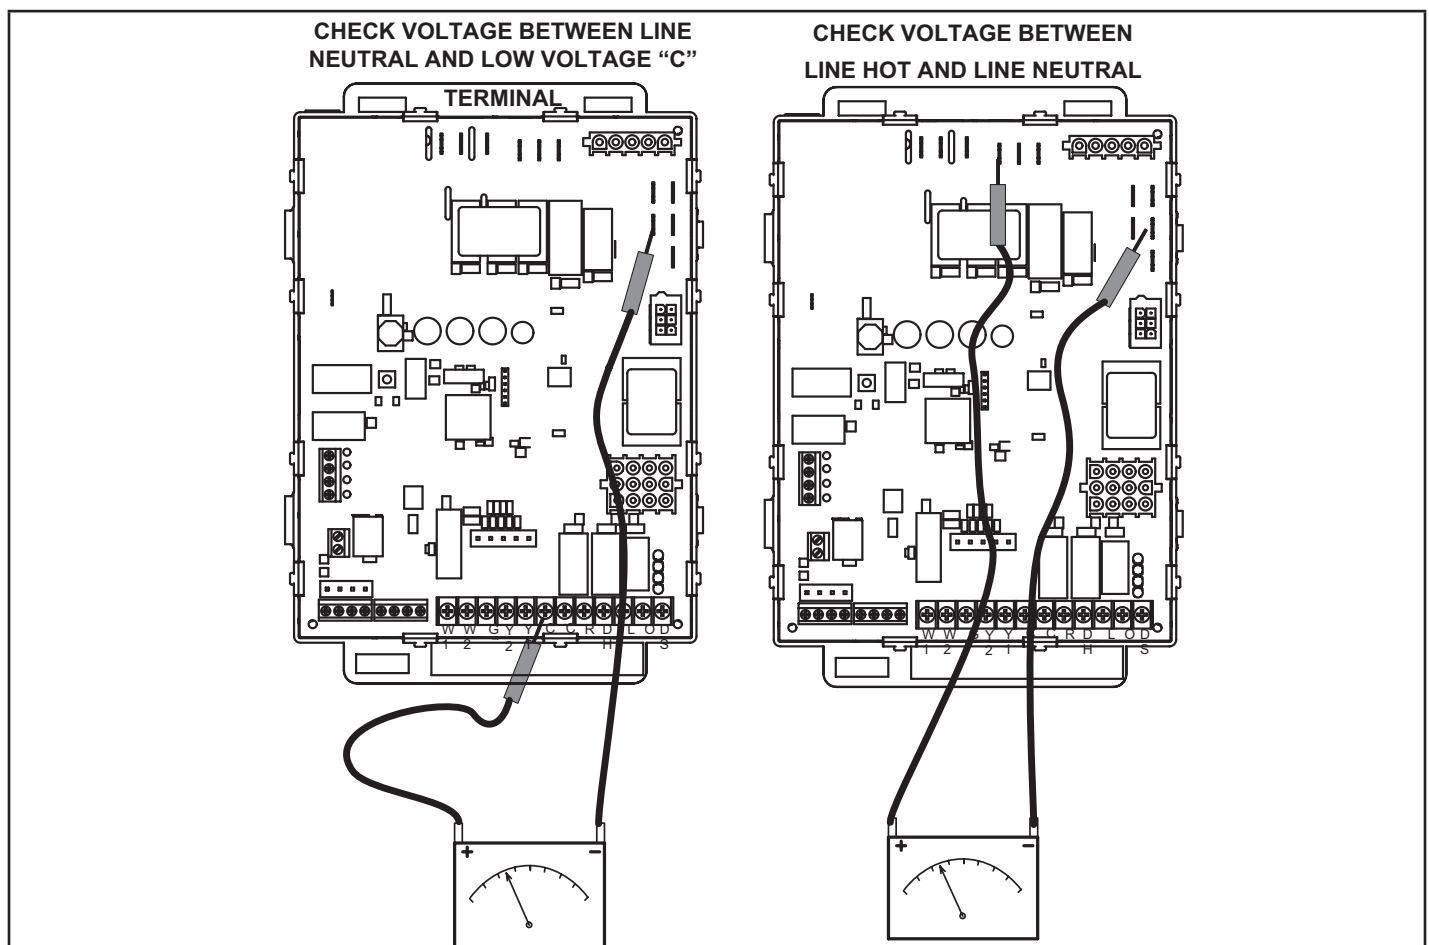

FIGURE 50
- 1 - Measure the AC voltage between Line Neutral (spade terminals) and "C" terminal (low voltage terminal block) on the integrated control. See FIGURE 50. A wide variation in the voltage between Line Neutral and "C" as a function of load indicates a poor or partial ground. Compare the readings to the table below. If the readings exceed the maximum shown in table 29 make repairs before operating the furnace.
- 2 - In addition, measure the AC voltage from Line Hot to Line Neutral (spade terminals) on the integrated control. See FIGURE 50. This voltage should be in the range of 97 to 132 Vac.